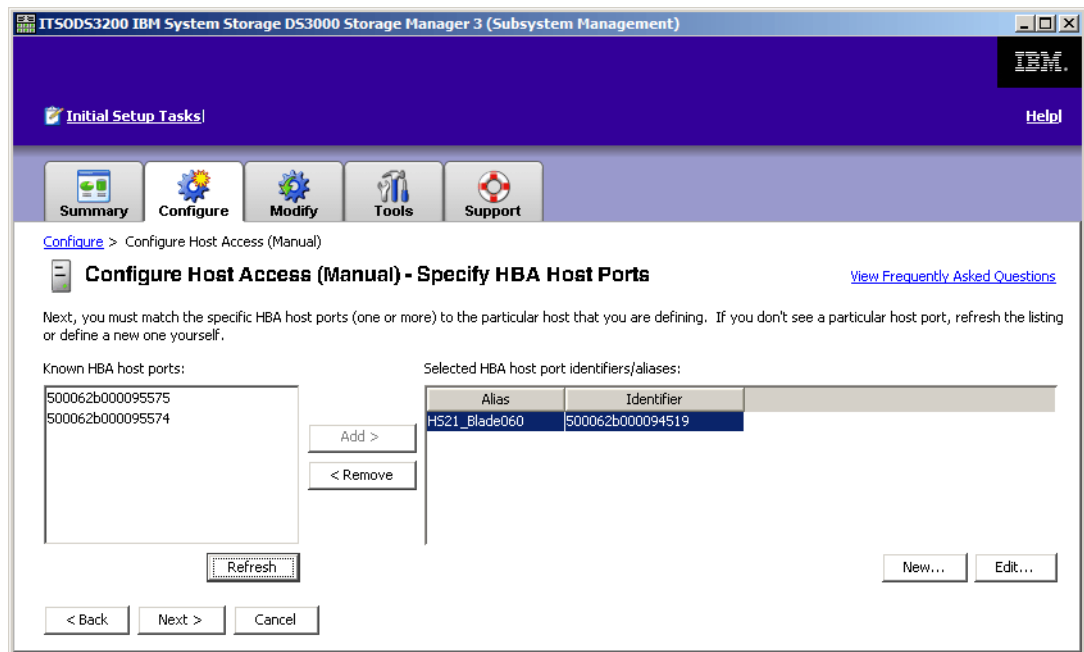

Figure 20-27 SAS Expansion Card - Host port selection
3. Select the WWPN of the first port of the SAS Expansion Card that was recorded in 20.3.3, "SAS controller and SAS Expansion Card configuration" on page 454. Click **Add** to add it to the selected host port identifiers section, as shown in Figure 20-27.